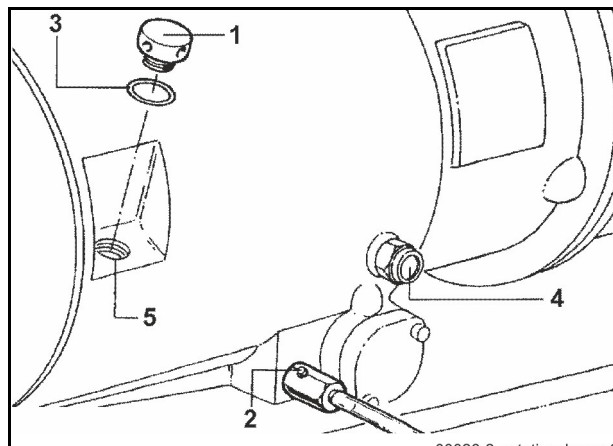

Fig. 359 Maintenance openings on compressor
- The sight glass (4) can be used to check the oil level (**Fig. 359**).
- Carefully open the filler plug **(1)** (**Fig. 359**) to equalise the pressure.